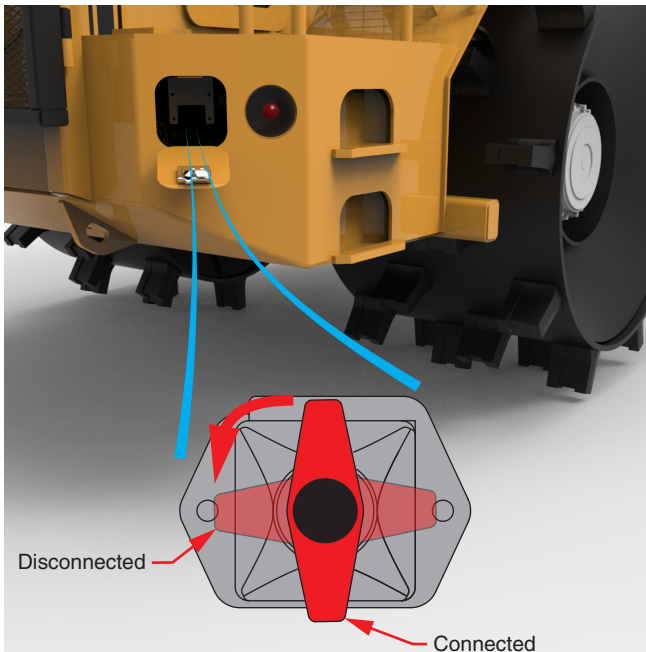

Figure 5-1-2 Battery Disconnect Switch Location
Always set the battery disconnect switch to “OFF” before performing any welding. The battery disconnect switch is located on the right side of the machine behind the boarding stairs, accessed behind a guard door (see Figure 5-1-2). Turn the switch counterclockwise to disconnect the batteries.
- Set Battery Disconnect Switch to OFF (see Figure 5-1-2).